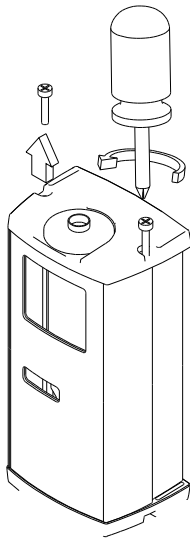

Figure 4a
Unscrew the two (2) 3x16 A4-screws on the top cover of the SATEL-321 casing (see Figure 4a).